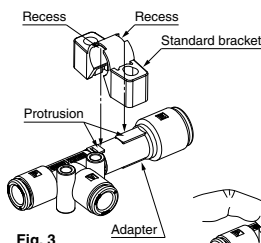

Fig. 3
- 1) Align the recess of the standard bracket and the protrusion of the adapter. Push the bracket from the top onto the adapter (Fig. 3).